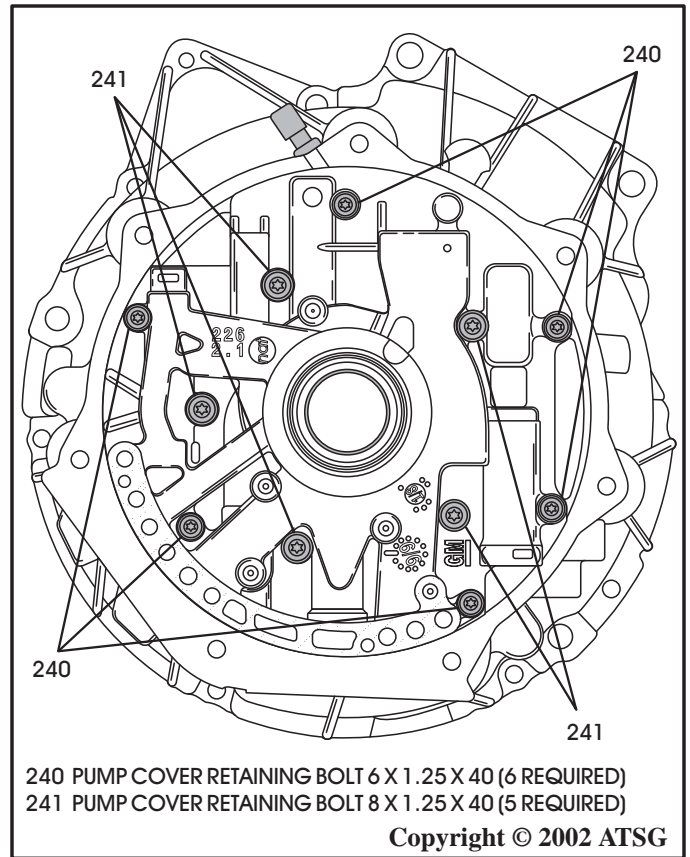

Figure 68
30. Install the proper pump cover to converter housing retaining bolts in their proper locations as shown in Figure 68, and hand tighten only.